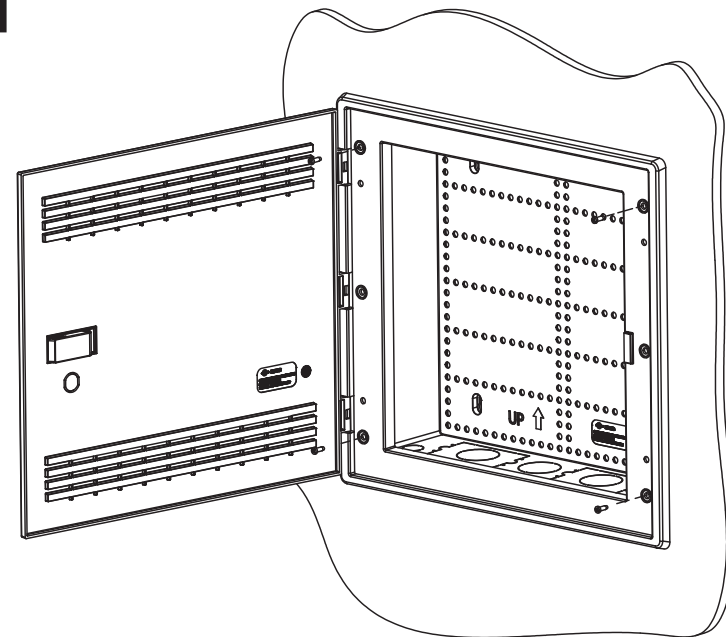

FIGURE 4
3. Secure the door assembly to the studs with the included wood screws as shown in Figure 4.